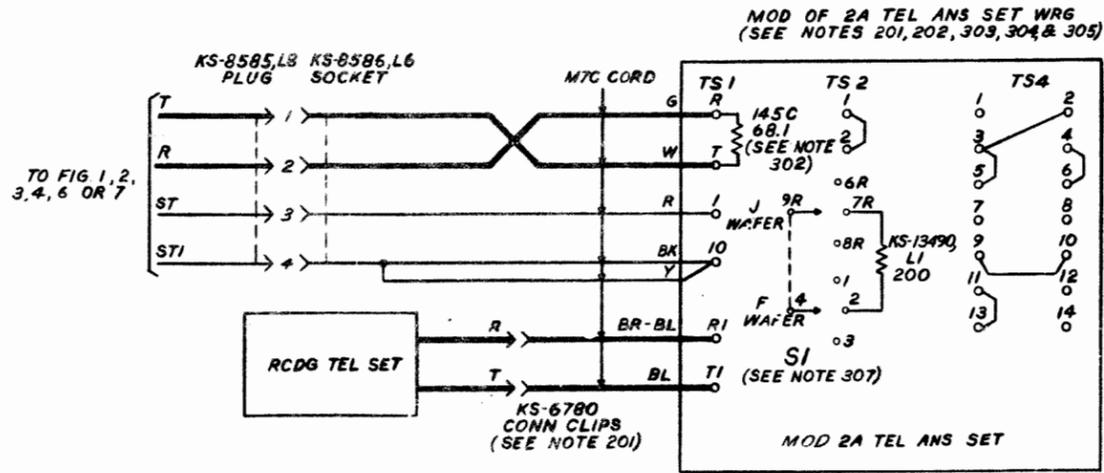
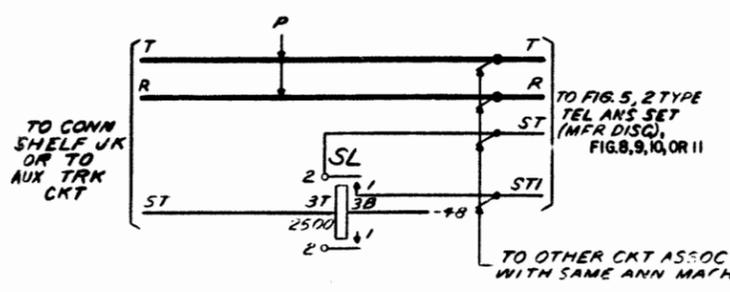
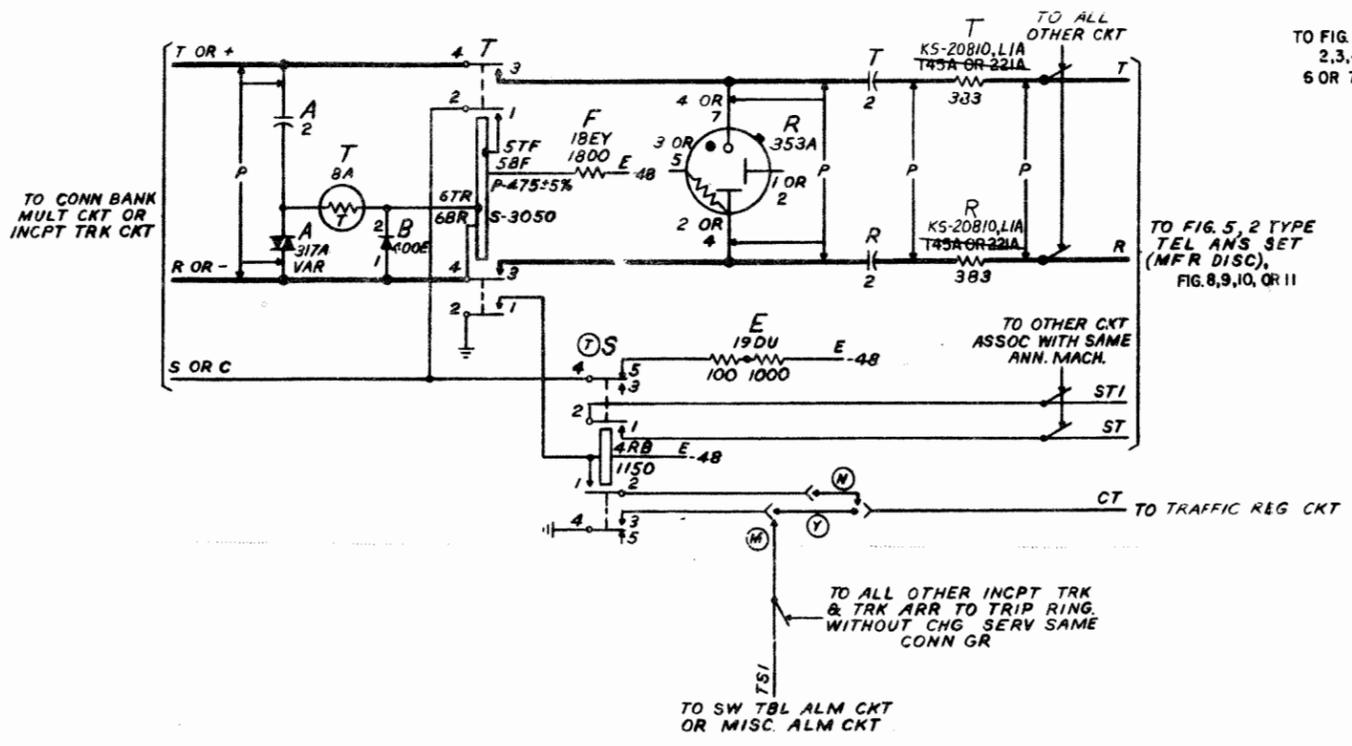

FIG. 7
FIG. 8 (A & M ONLY)
FIG. 9
205. THE TERMINAL STRIP ON ANNOUNCEMENT SET EQUIPMENT ASSEMBLY IN CADS. 16 AND 17, ADDED ON ISSUE 15D, REFLECT A REVISION IN THE INITIAL PRODUCTION OF EQUIPMENT PER ED-95034-() WHICH PROVIDES A SHOP WIRED UNIT WITH THE UNIT TERMINAL STRIP FOR THE WIRING FOR FIG. 8. THE UNIT TERMINAL STRIP IS ALSO UTILIZED FOR WIRING LEADS TO THE (SL) RELAY OF FIG. 7 MOUNTED ON THIS UNIT, EXCEPT THAT THIS RELAY IS FURNISHED AS A LOOSE PART PER J33016AD AND MOUNTED AND WIRED TO THE UNIT TERMINAL STRIP BY THE INSTALLER. OTHER CONNECTIONS AND INFORMATION AS SPECIFIED ON THE ANNOUNCEMENT SET EQUIPMENT ASSEMBLY DRAWING ARE ALSO SHOWN TO PROVIDE THE NECESSARY COMPLETE PICTURE OF CONNECTIONS. CAD. 11 FOR FIG. 7 IS DATED MFR DISC.
208. ON ISSUE 18D CADS 20 & 21 WERE ADDED. THESE CADS REFLECT A REVISION IN THE INITIAL PRODUCTION OF THE ANNOUNCEMENT SET & AMPLIFIER EQUIPMENT NOW SHOWN ON DRAWING H400-107 REPLACING ED 95034-() THE NEW UNIT PER H400-107 IS A SHOP WIRED UNIT WITH KS-14160 CONNECTOR THAT WILL ACCEPT CONNECTIONS FOR SD-32202-01. THE (SL) RELAY PER SD-32202-01, FIG. 7 IS FURNISHED AND SHIPPED LOOSE AS A PART OF J33016AD MOUNTED ON A SEPARATE MOUNTING PLATE NEAR THE ANNOUNCEMENT SET.
309. WHEN A KS-16765, L2 ANNOUNCEMENT SET IS EMPLOYED AS THE ANNOUNCEMENT SOURCE IN CONJUNCTION WITH FIG. 8 OR FIG. 9 AN AUX AMPLIFIER PER KS-16754, L1 (MFR. DISC.) OR L4 IS REQD AND THE T & R LEADS TO THE TRUNKS SHALL BE CONNECTED TO THE T2 & R2 LEADS RESPECTIVELY OF THE AMPLIFIER CKT SD-95231-01.
(FOR FIG. 7)
(FOR FIG. 8)